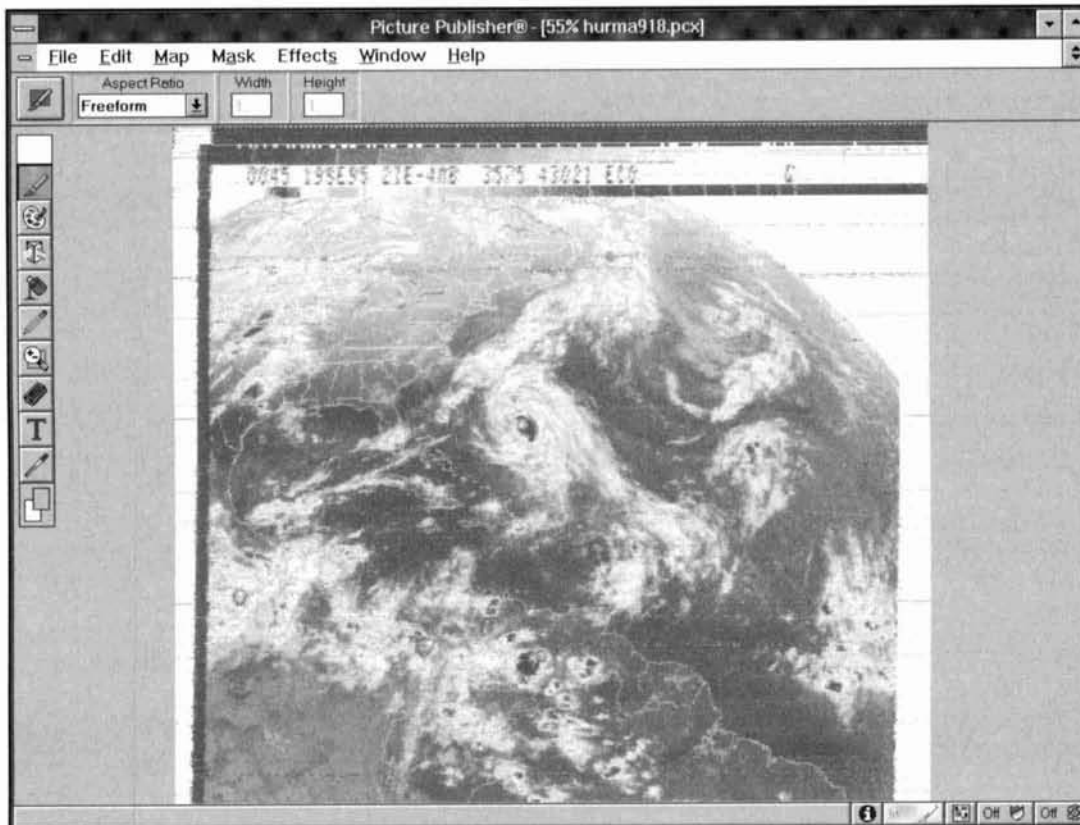

Figure 1. Received from station NAM in Cutler, Maine, this annotated infrared scan shows Hurricane Marilyn as of September 18, 1995.
Figure 1 shows a view of Hurricane Marilyn as captured on September 18, 1995. A combination of local QRM and late-summer thunderstorm QRN added streaks and dashes to the image. The HF fax software includes several useful tools that alter image brightness and contrast, and translate a gray-scale image into false color, black/white, or blue/gray charts.
Figure 1. Balanced Line SWR indicator. (A) This post WWII open wire line indicator shows low SWR when the bulb towards the transmitter is bright as compared to the one towards the load. Dimension shown and bulb types suitable for a transmitter of 50-100 watts output. Sensitivity is adjusted by the spacing from the main line. (B) Coax version of (A).
Figure 2. SWR measuring instruments. (A) Transmission line directional coupler, an extension of Figure 1. Sensitivity is much higher, due to use of the diode detector. A typical unit made for the CB band is usable for the low power range from about 0.1 to 10 watts. (B) Coupler/indicator which separates the magnetic and electric field coupling to the line. Careful construction is needed to eliminate the effects of stray coupling, see the ARRL or other handbooks for design details.